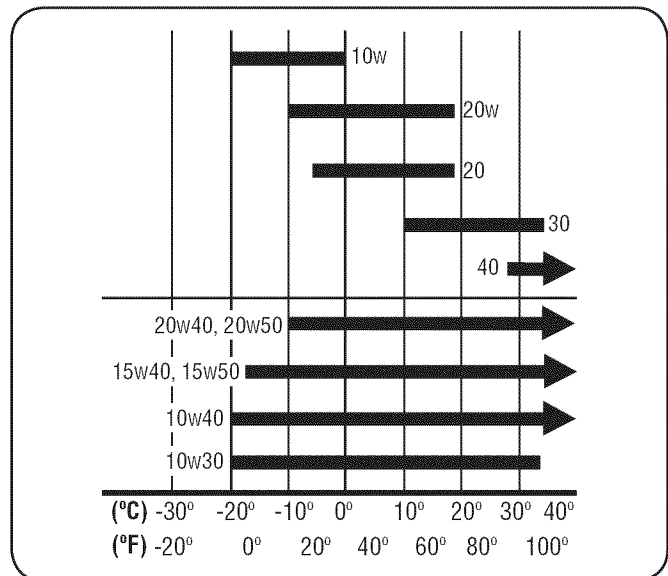

Figure 6-1
Refer to viscosity chart in Fig. 6-1 for oil recommendations. Do not over-fill. Use a 4-stroke, or an equivalent high detergent, premium quality motor oil certified to meet or exceed U.S. automobile manufacturer's requirements for service classification SG, SF, SH or SJ. Motor oil classifications will show this designation on the container.
12. Fill with the recommended Oil. See Fig. 6-1.